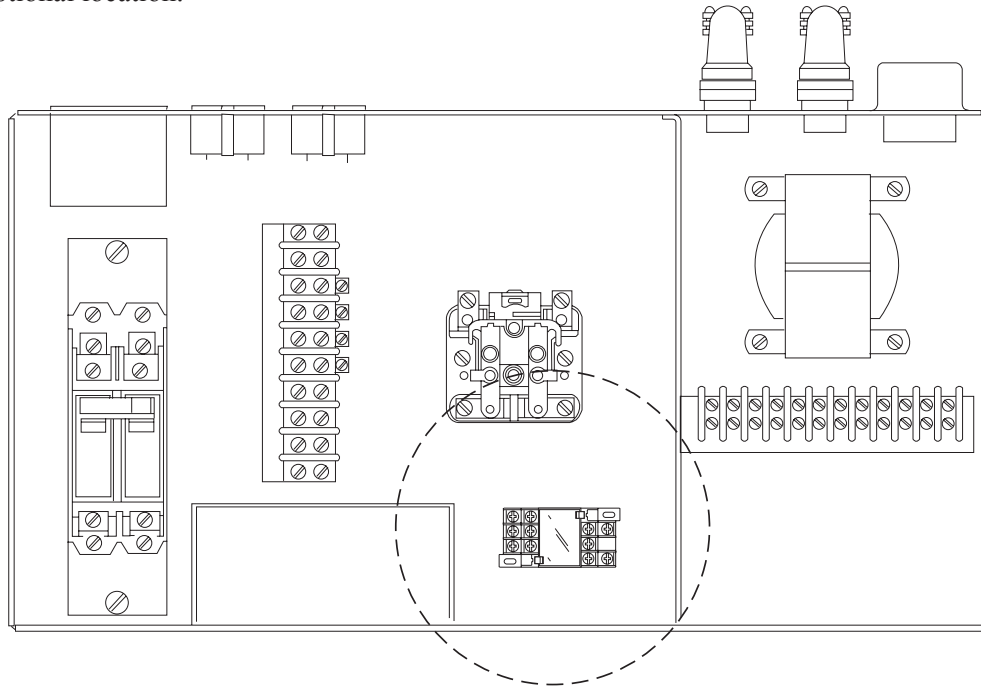

Figure 5
- Determine a suitable location for relay base in the electrical box. Electrical components will vary in location within each box, it is important the base and wires do not interfere with other components, and the location allows for easy access to the new relay. Refer to *Figure 5* for optional location.